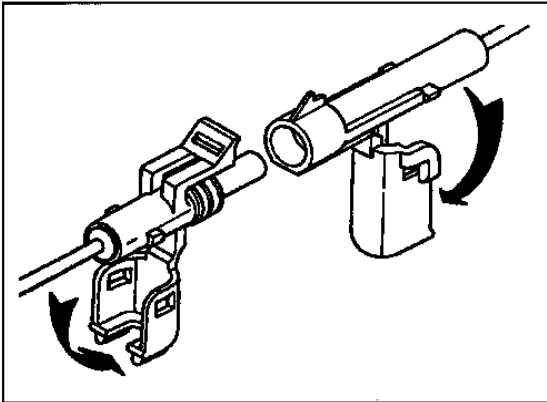

Figure 42 Disconnect Connector Bodies
1. Disconnect the connector bodies (Figure 42). Unlatch and open the secondary lock on the connector.